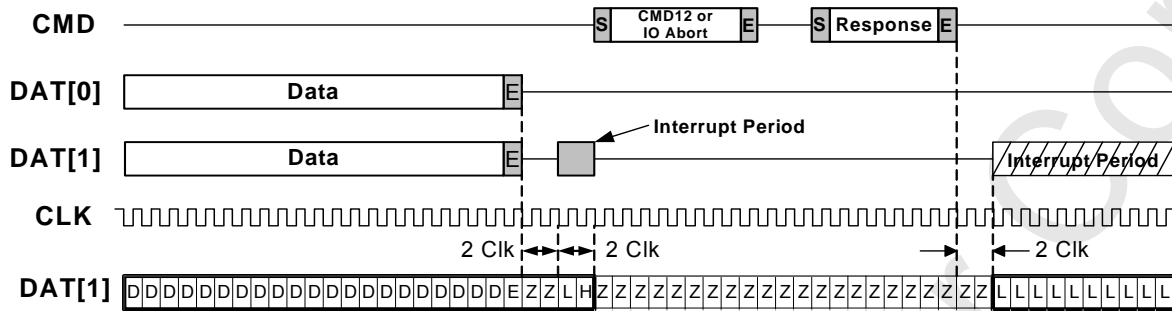
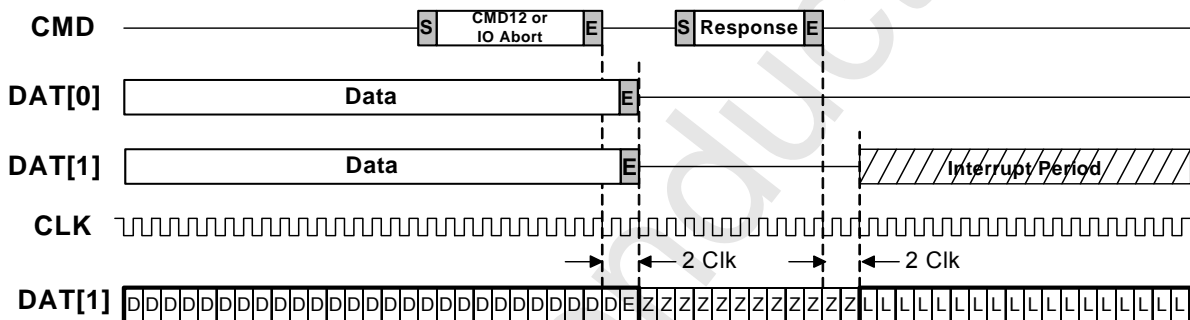

Figure 8-9 : Terminated Read Multiple Interrupt timing (Case 1)
Figure 8-10 : Terminated Read Multiple Interrupt timing (Case 2)
In the case of the Read Multiple Block or Write Multiple Block commands to the memory of a combo card, a special case for the timing of the Interrupt Period is created when the transfer is terminated. The Read Multiple and Write Multiple commands cause the card or host to transmit blocks of data until the operation is terminated by the host issuing a CMD12 or I/O Abort. In the case of a host transfer abort (memory or I/O), the timing of the Interrupt Period is the same. The Interrupt Period (if active) ends 2 clocks after the end bit of the stop transmission command (CMD12 or I/O Abort). The Interrupt Period re-starts 2 clocks after the end bit of the response. There are 2 cases for the Interrupt Period, depending on when the host issues the CMD12 or I/O Abort. Figure 8-9 shows the timing of the Interrupt Period for a Read Multiple command if the stop transmission is issued after a block of data has begun. In this case, the normal Interrupt Period begins 2 clocks after the end of the last data block. The Interrupt Period again begins 2 clocks after the end of the response to the transfer abort.
Figure 8-10 shows a second case where the read multiple transfer was terminated during data transfer and the effect on the Interrupt Period. The read data transfer is terminated by a CMD12 (memory) or an abort I/O write (CMD52). One clock after the abort, the data shall terminate and the card shall send a single end bit before releasing the data bus. Two clocks after the response end, the Interrupt Period begins when the card can signal interrupt by asserting a 0 (L) on the DAT[1] line.
The termination of a Write Multiple command has the same timing as shown in Figure 8-9 and Figure 8-10. In addition, Figure 8-9 and Figure 8-10 indicate the example in the Default Speed, High Speed, SDR12, or SDR25 Mode.